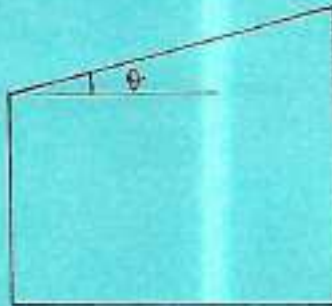

Fig. 2
- (d) A 105 mm sine bar is to be used to check the angle  $\theta$  of the component shown in Figure 2 using two piles of slip gauges. One pile of slip gauge is 19.54 mm high and the other one is 40.28 mm.